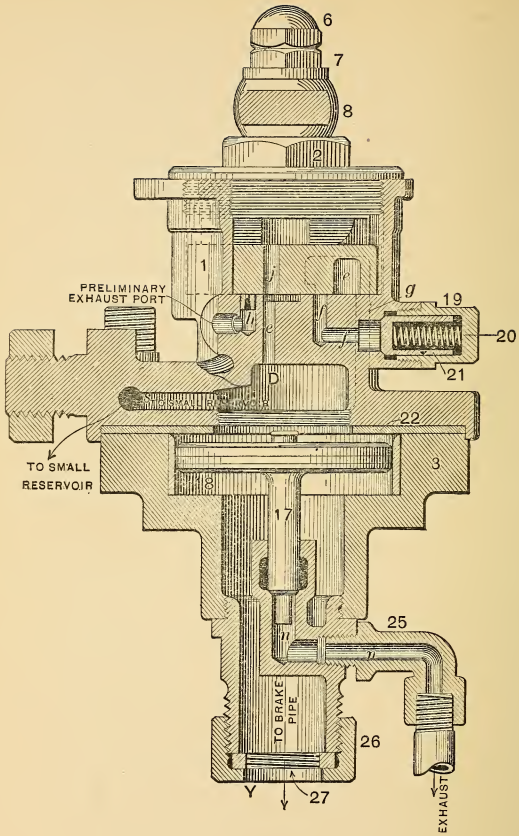
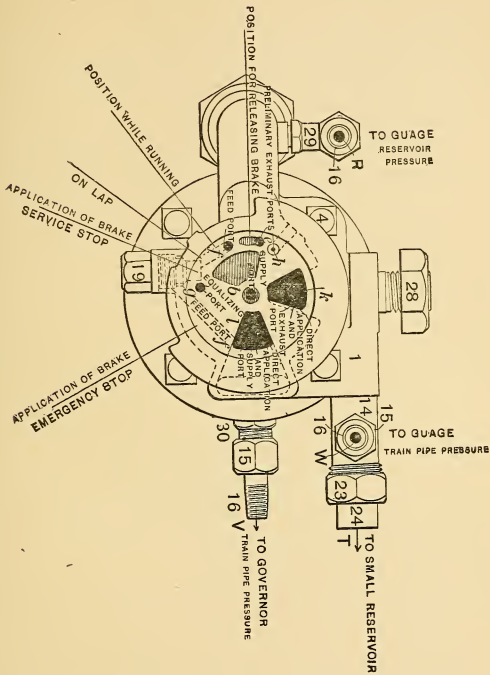

FIG. 18.—D 8 BRAKE VALVE.
FIG. 19.—D 8 BRAKE VALVE.
Port *g* in the rotary seat (Fig. 19) leads to chamber *D* and is exposed to cavity *c* of the rotary in this position of the valve so that air passing from the main reservoir into the train line through cavity *c* is also free to go to the little drum through port *g*.
In this position Fig. 18 shows port *j* open to port *e*, and main reservoir pressure passes directly to the little drum through these ports.
A. In this position port *j* (Fig. 18) is moved around directly over port *f* in the rotary seat. The main reservoir pressure coming from the top of the rotary feeds through ports *j* and *f* and strikes the valve 21, which is held to its seat by the excess pressure spring 20. This spring has a tension of twenty pounds so that when the main reservoir pressure is twenty pounds greater than that back of the valve, or train-line pressure, the valve is forced from its seat and the air coming from the main reservoir passes through port *f* (Fig. 19) into port *l* and into the train line at *Y*. At the same time it feeds into the train line through port *l*, it feeds up under the rotary into cavity *c* which, as in full release, is exposed to port *l*. Port *g* in the rotary seat (Fig. 19) is still
*A.* A lug on the inside of the rotary rim covers port *g* (Fig. 19) in this position.
*A.* In this position, the slot *p* on the under side of the rotary (Fig. 20) connects port *e*, which leads through the rotary seat to the little drum, with port *h* in the rotary seat (Figs. 18 and 19) leading to the atmosphere.
*Q. What is the object of the small slot in the rotary seat (Fig. 19) leading from port c, which leads to cavity D, towards port f?*
*Q. What would happen if the air from the main reservoir reached the under side of the piston 17 (Fig. 18) first?*
A. The rotary leaks or there is dirt on the excess pressure valve 21 (Fig. 18).
A. The excess pressure spring 20 (Fig. 18) is weak.
A. The engineer watches the gauge and partially closes the pump throttle, or, on some roads, two governors are used, one connected to the main reservoir pressure and the other, as in the cut (Fig. 19), with the train line.